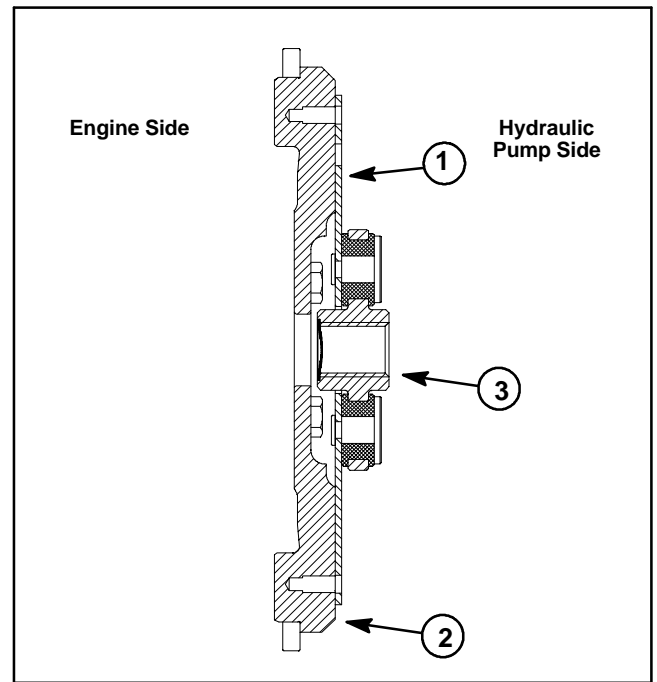

Figure 18
1. Position spring coupler to engine flywheel and align mounting holes. Make sure that coupler hub is away from engine flywheel (Fig. 18).
2. Secure coupler to flywheel with six (6) cap screws (item 3) and lock washers. Tighten cap screws in a crossing pattern.
3. If rear mount brackets (item 8) were removed from flywheel housing, secure brackets to housing with removed fasteners.
4. Position flywheel housing to engine. Secure flywheel housing with cap screws (items 5, 7 and 18) and lock washers. Tighten cap screws in a crossing pattern.
5. Secure rear mount brackets to engine mounts (item 11) with cap screw and flange nut.